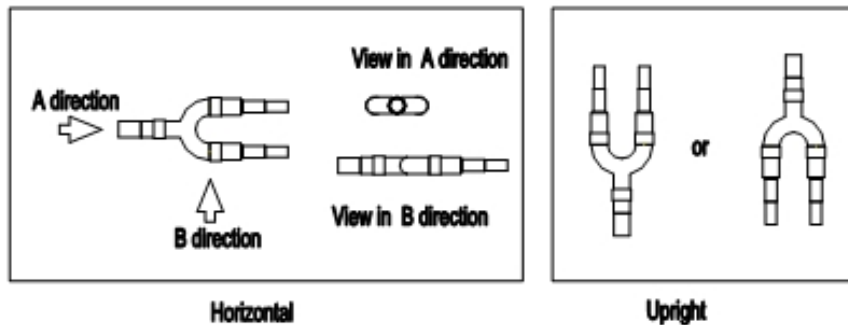

Fig 6 0 : Layout sketch map of manifolds
- 2) Keep the plane of two branches of the manifold horizontal or keep the main pipe of the manifold vertical in order to void of uneven distributing of gas and liquid and affect the effect , see Fig 6 0 :